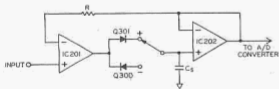

FIGURE 5-4. SIMPLIFIED BLOCK DIAGRAM,
**5.2.15** A simplified block diagram of the Differential Peak Hold circuit is shown in Figure 5-4. The "Peak Hold" circuitry consists of a storage capacitor, two diodes, and two isolation amplifiers connected in a unity gain configuration. Initially, the  $C_s$  capacitor is discharged. When the "Peak Hold" pushbutton is depressed, the  $C_s$  capacitor is charged to either the most positive or negative potential of the input signal via IC 201. The polarity is determined through either diode Q300 or Q301 by the selection of the " $\pm$ " switch position. Once the most extreme potential is removed, the diode is reverse biased and the potential is stored in the  $C_s$  capacitor. The decay rate of the stored potential is about one count per second.